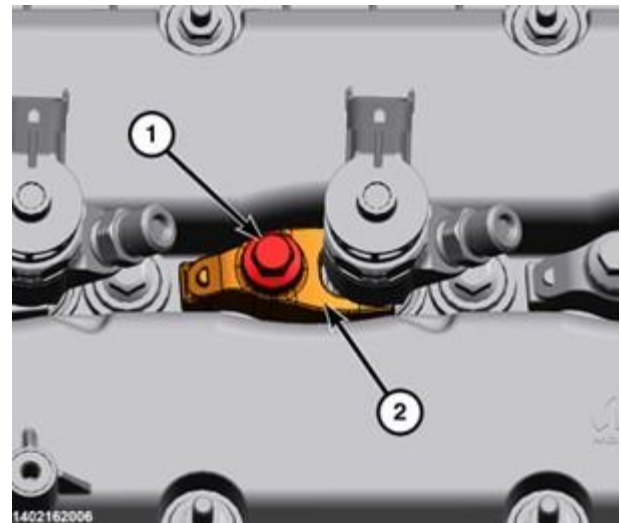

Figure 46 – Fuel Injector Bolt and Clamp
87. Remove the bolt (1) and the fuel injector clamp (2) (Figure 46).